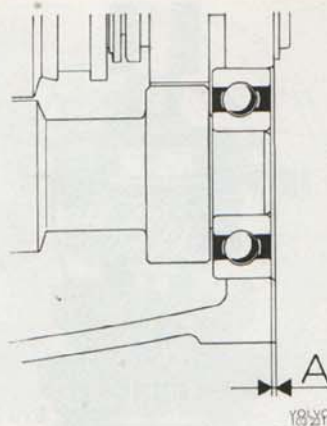

Fig. 4—16. Clearance for intermediate shaft
6. Invert the gearbox. Place the insert drift into press tool SVO 2831. Then press on the bearing for the intermediate shaft with the press tool, see Fig. 4—15. Fit the clutch casing together with the new gasket.
8. Upend the gearbox with the rear face upwards. Drive the intermediate shaft forwards so that its front bearing lies against the clutch casing. Insert shims for the intermediate shaft rear bearing so that they lie evenly with or up to 0.05 mm (0.002") under the rear face, see A, Fig. 4—16.